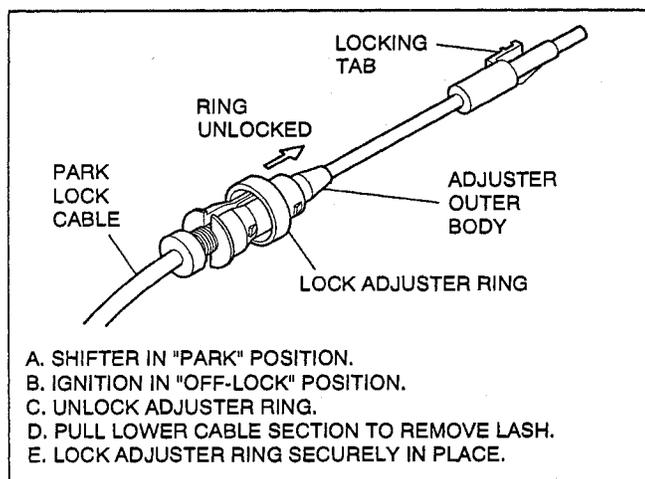

Figure 19 - Adjusting Park Lock Cable
- Park lock cable assembly (48). (See Figure 19)
2. Hexagon flanged head bolt (46).
3. Ball & actuator assembly (45).
4. Pop off locking ring on park lock cable assembly (48). (See Figure 19,20)
- Move park lock latch to gain access to lower oval head 6-lobed socket tap screw (47).
5. Two oval head 6-lobed socket tap screws (47) from shift gate.
6. Shift lever clevis (41).
- A. Lift up on shift gate and rotate shift lever clevis (41).
- B. Clevis (41) from gearshift lever assembly support bracket (49).
7. Park lock cable assembly (48) from support bracket (49). Insert retaining clip.
8. Pry actuator arm of electrical (BTSI) actuator (61) from outer shift cable ball stud on cable shift cam assembly (44).
9. Pry transaxle shift cable from inner ball stud on cable shift cam assembly (44).
10. Hexagon flange head bolt (46).
11. Cable shift cam assembly (44).